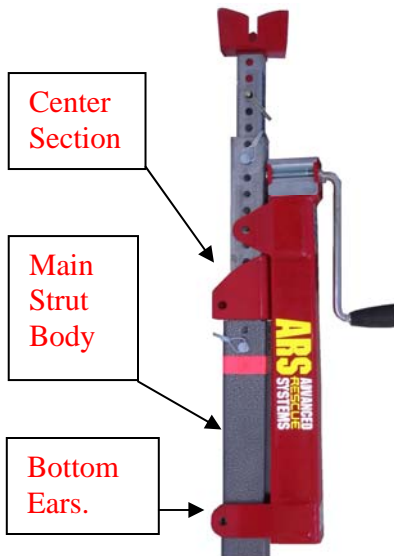

Figure 2
Step 3. Place Strut Jack over main strut body, set center section upon the top of the main strut body. (Figure 2)